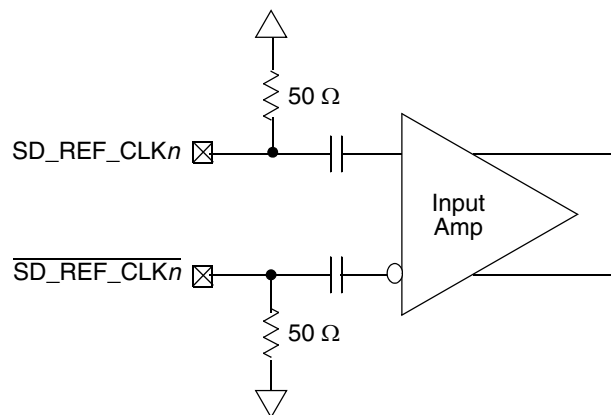

Figure 33. Receiver of SerDes Reference Clocks
- The SD_REF_CLKn and $\overline{SD_REF_CLKn}$ are internally AC-coupled differential inputs as shown in Figure 33. Each differential clock input (SD_REF_CLKn or $\overline{SD_REF_CLKn}$) has on-chip $50\text{-}\Omega$ termination to SGND followed by on-chip AC-coupling.